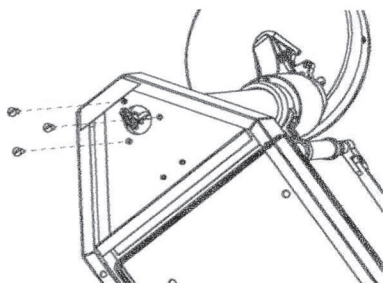

Fig. 1
- To link the weighing head with the three M6 nuts and 06 washers. (Fig.1)